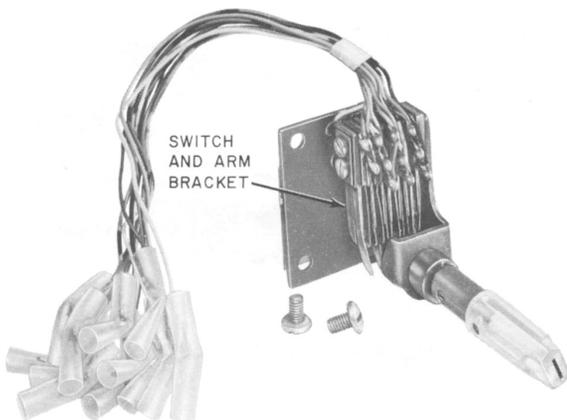

Fig. 10—D-180384 Kit of Parts
**3.13** Install the two-line service feature (D-180384 Kit of Parts, Fig. 10) in the 526B telephone set as follows: